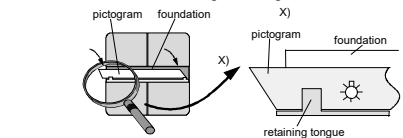

Figure 6
Insert labels (figure 6)
- Affix labels on the labeling base (figure 6).